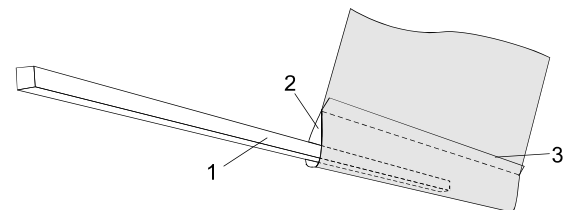

Fig. 16
4. Slide the remaining square rods (1) into the sewn-in rod pockets (2) at the rear edge of the roof fabric until they meet (see Fig. 16).